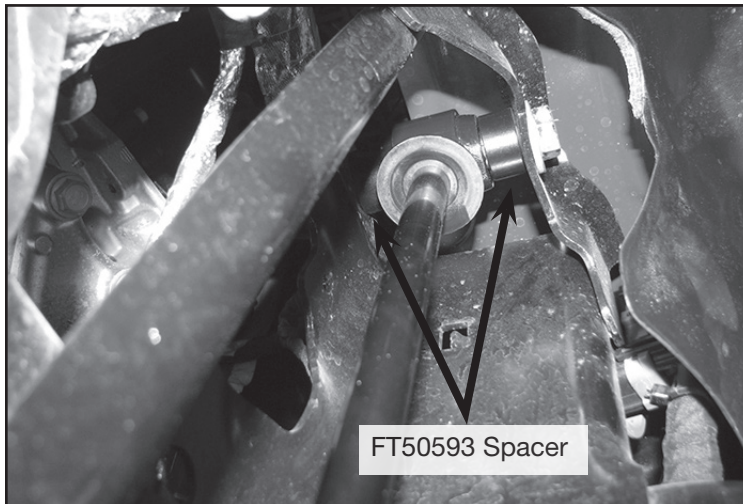

FIGURE 17 - STEP 17
17. **(Upper Shock Mount)** Locate FTS6349 (Stealth Shock) and install FT404739 (Sleeve) into each bushing. Next, Install the shock using (2) FT50593 (Spacer) on each side of the bushing using the factory hardware. Torque to 100 ft-lbs. **SEE FIGURE 17**